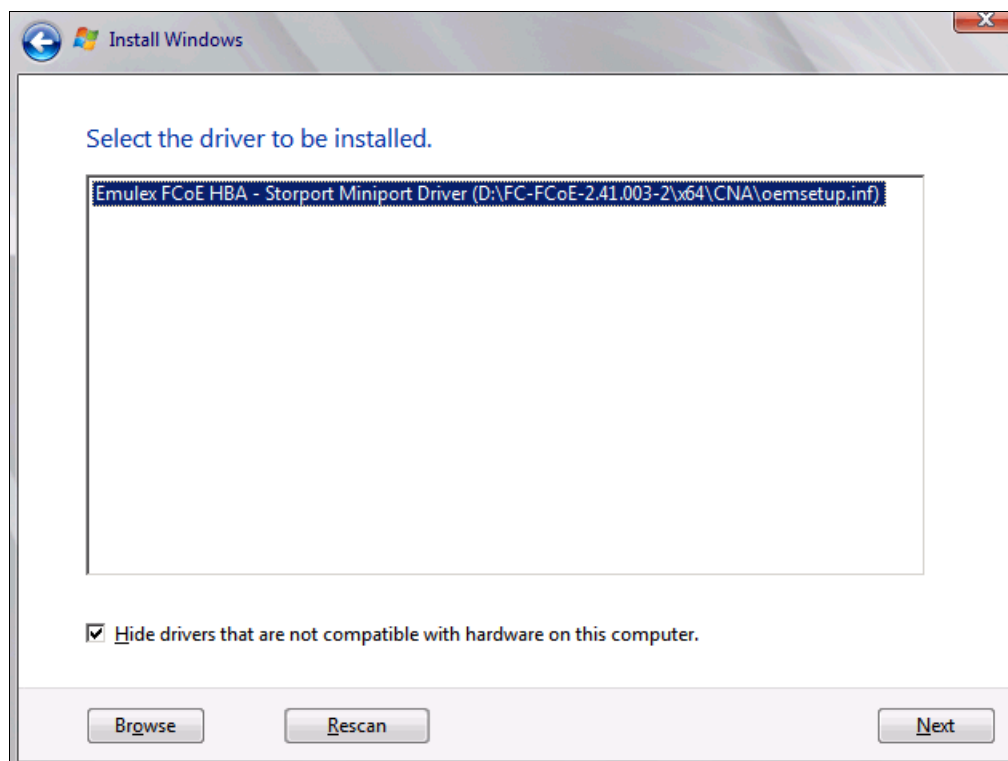

Figure 9-133 Selecting the driver to be installed panel
14. In the “Select the driver to be installed” panel (Figure 9-133), select the driver, and click **Next**.